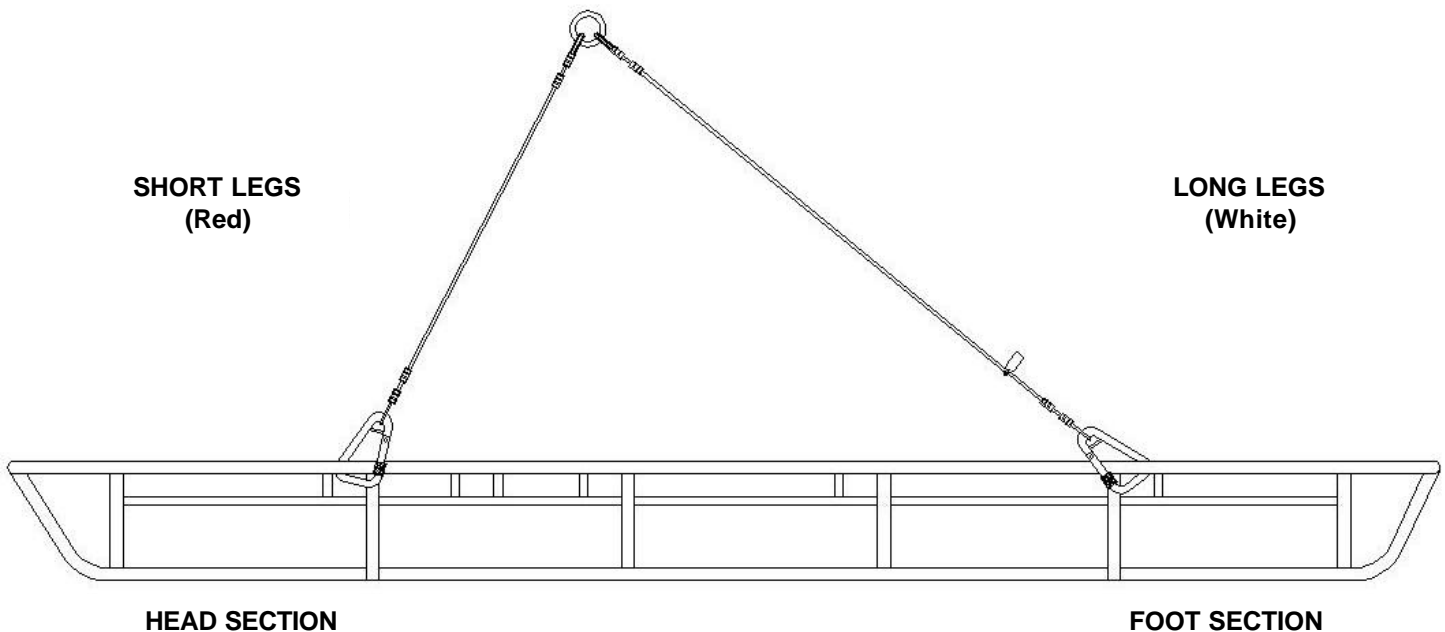

FIGURE 1
Short legs of each sling half (red labeled snap hooks) must be attached at litter head section attachment points; the long legs of each sling half (white labeled snap hooks) must be attached at foot section attachment points. See Figure 1.
Please read all instructions and review Figure 1 prior to assembly.
1. Lay sling halves in litter bed with red labeled snap hooks toward head section and white-labeled hooks toward foot section. See figure 1.